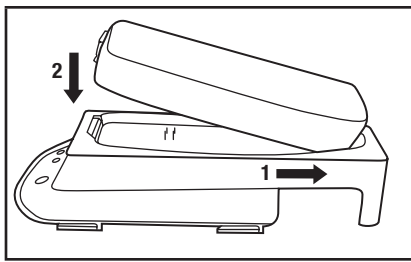

Fig. 8 – Inserting battery in charging cradle
3. Ensure the gold electrical contacts on the battery and charger are clean and free of debris. Insert the battery pack into the 3M™ Charger Cradle TR-640 by sliding the hinge end of the battery pack in first. Push down to click the front end into place (Fig. 8). Charging will begin.